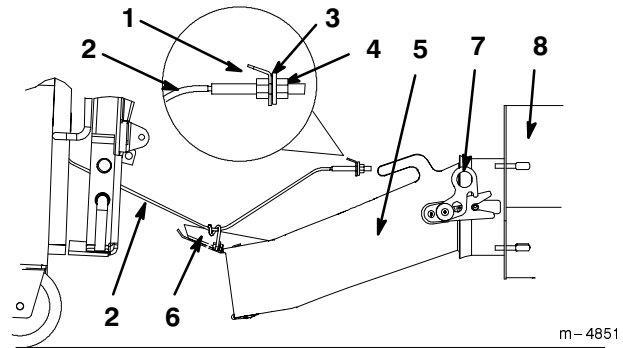

Figure 24
4. Raise seat, to gain access to plenum cable. Remove washer and nut from plenum cable end (Fig. 24).